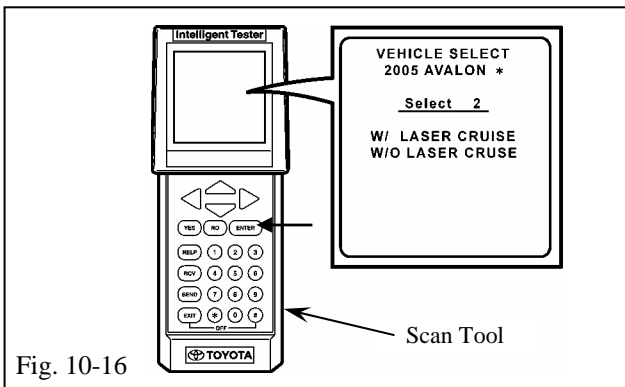

Fig. 10-16
- (q) Select the correct vehicle cruise option with the scroll key, then press the “ENTER” button. (Fig. 10-16)